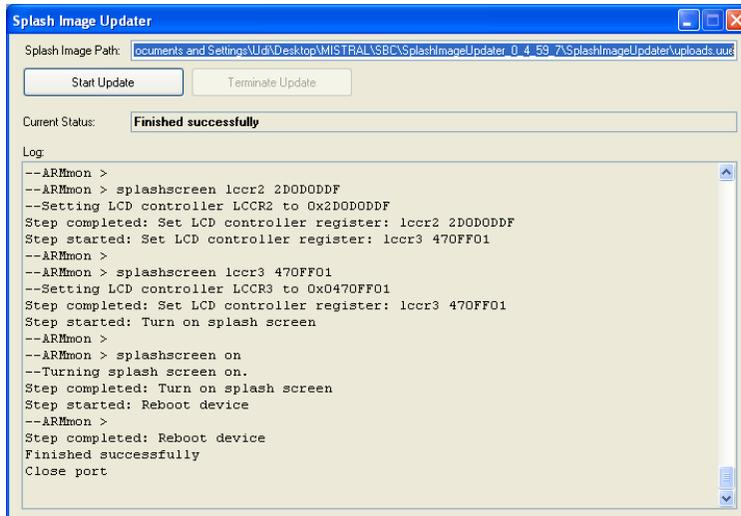

Figure 123:
26. The update is complete when the following message appears:--Finished Successfully (Figure 123).